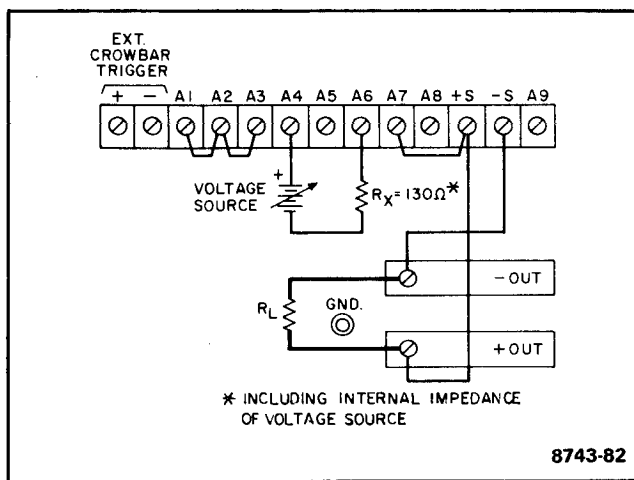

Figure 3-8. Voltage Programming of Output Current (Fixed Gain)
**3-47 Constant Current Output, Voltage Input (Fixed Gain).** The rear panel connections shown in Figure 3-8 allow the output current to be varied by using an external voltage source to program the supply. The constant-current programming coefficients for the supplies included in this manual are as follows ( $\pm 10$ ):